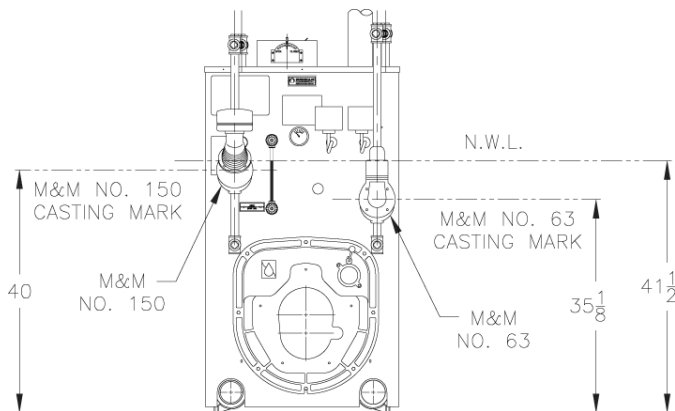

Figure 31: Mounting Elevations of M&M 150 and 63 Float Low Water Cut-Offs
1. PLEASE REFER TO MINIMUM PIPING, FIG. 31 FOR PROPER QUANTITY OF SUPPLY AND RETURN CONNECTIONS USED FOR SPECIFIC BOILER MODEL.